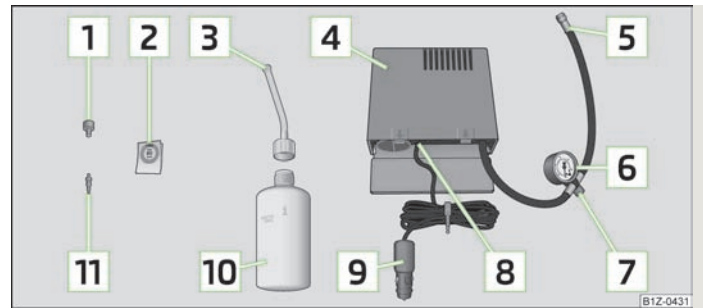

Fig. 155 Components of the breakdown kit
- Stick the sticker  » Fig. 155 on the dash panel in view of the driver.
- Forcefully shake the tyre inflator bottle  » Fig. 155 several times.
- Screw the tyre inflation hose  » Fig. 155 of the air compressor strongly firmly onto the tyre valve.